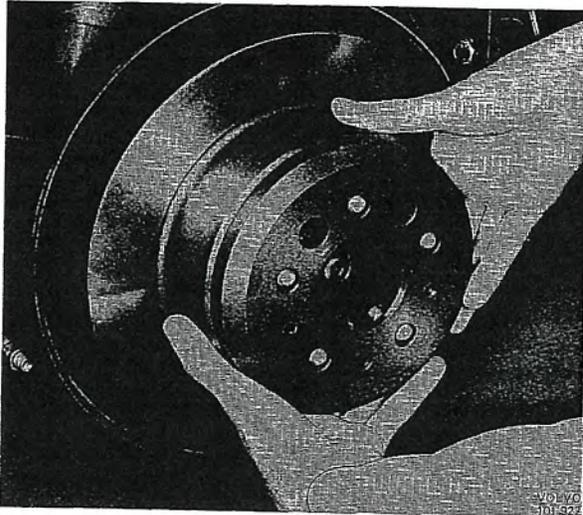

Fig. 5-84. Removing brake drum
4. Remove the attaching bolts for the brake drum and lift off the drum, see Fig. 5-84.